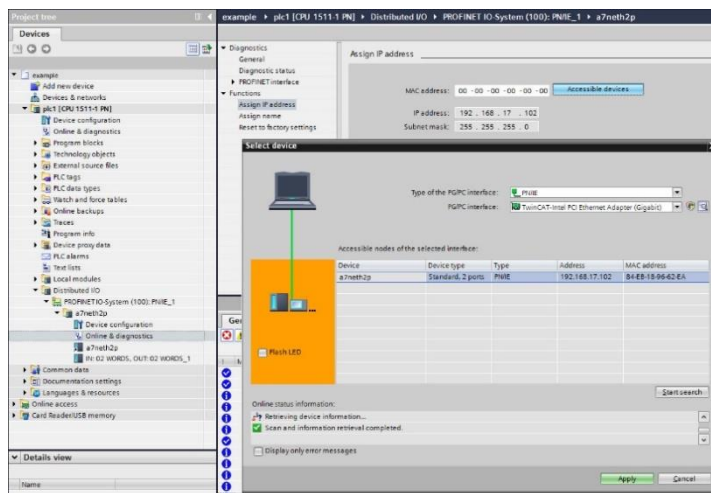

Figure 72: Discover PROFINET Devices on the Network
In the **Project tree**, expand **plc1...Distributed I/O...PROFINET IO-System (100):PN/IE_1**. Expand the device and double-click **Online & diagnostics**. In the next panel, expand **Functions** and select the **Assign IP address** node. Click the **Accessible devices** button. Select the appropriate **PG/PC interface** and click the **Start search** button to discover and display the PROFINET devices on the network as shown in Figure 72. Select the device and click the **Apply** button.